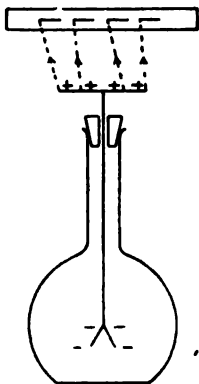

FIG. 198.
**221. Charging a body by induction** is easily accomplished. To charge an aluminum-foil electroscope by induction bring *near* (say 10 cm.) from the top of the electroscope a charged rubber rod. (See Fig. 198.) The separated leaves show the presence of the repelled or *negative* charge, the *positive* charge being on the disc at